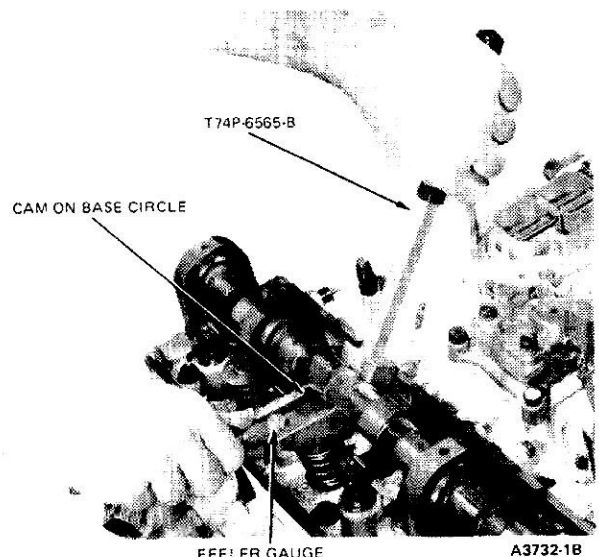

FIG. 3 Checking Hydraulic Valve Lash Adjuster
1. Position the camshaft so that the base circle of the lobe is facing the cam follower of the valve to be checked (Fig. 3).
2. Using the tool shown in Fig. 3, slowly apply pressure to the cam follower until the lash adjuster is completely collapsed. Hold the follower in this position and insert the proper size feeler gauge between the base circle of the cam and the follower.